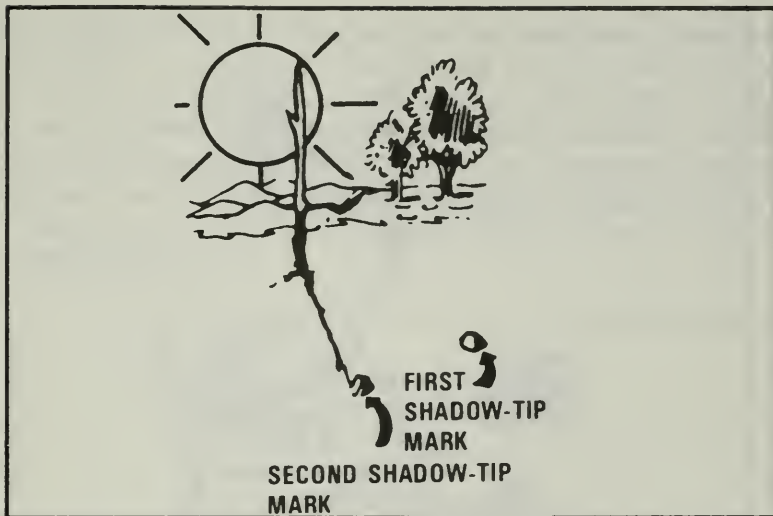

Figure 40. Second shadow tip mark.
b. Wait 10 or 15 minutes until the shadow tip moves a few inches. Mark the new position of the shadow tip just like the first (Figure 40).